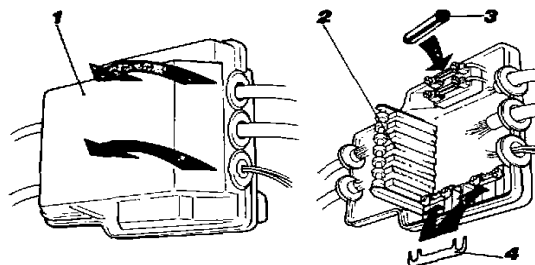

Fig. 222. Connector box with fuses, MD70, TMD70
**MD70 and TMD70** have fuses for engine and alternator in the connector box on the right hand side of the engine (fig. 222).